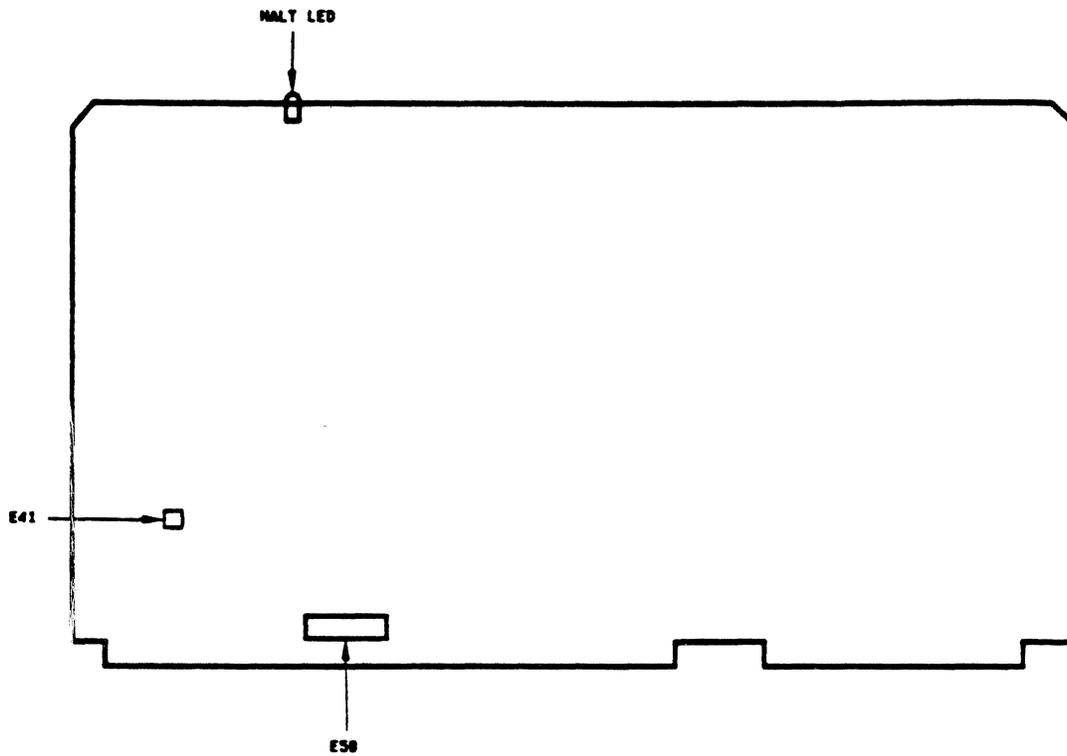

Figure 3-11 SIO-16 Board
Figure 3-11 illustrates the positions of the Halt LED and configuration areas on the SIO-16 board. The following paragraphs describe configuration areas on the SIO-16 module.
- Area E41 assigns the SIO-16 board number (SIO 1 through SIO 4). The location of this configuration area is shown in Figure 3-11. Table 3-16 lists the SIO board number and Multibus interrupt level assigned by each combination of shorting plug positions. Board number assignment is required only for boards ordered separately; factory-installed boards have preassigned board numbers.
- Area E58 assigns the SIO-16 Multibus interrupt (level 4 through 7). The location of this configuration area is shown in Figure 3-11. Table 3-16 lists the Multibus interrupt in conjunction with SIO board number assignment. Multibus interrupt level assignment is required only for boards ordered separately; factory-installed boards have preassigned interrupt levels.